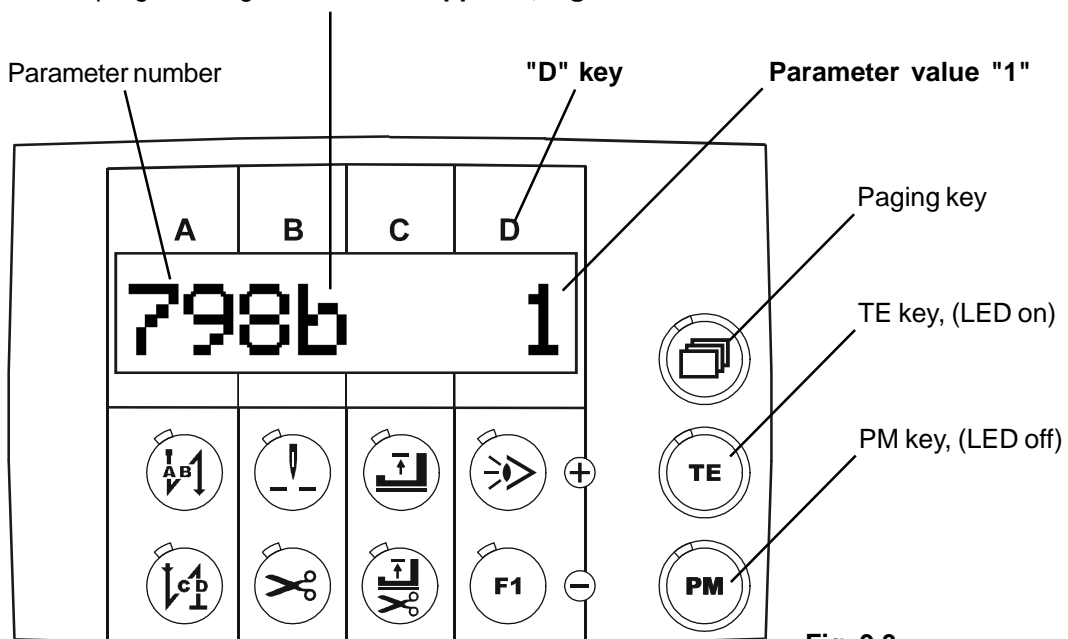

Fig. 9.3
- Use the **D+** or **D-** keys to enter **parameter value "1"**, **Fig. 9.3**
"b" = programming level "b" then appears, **Fig. 9.3**